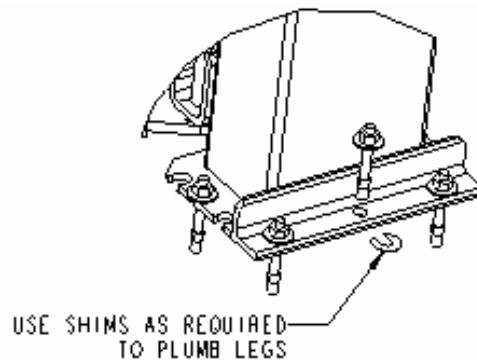

Figure 8
- F. Using a level, plumb the mainside leg both side to side and front to back. Shim the leg as necessary next to and on both sides of the anchor bolts, figure 8. If more than 1/2" of shimming is required, **do not** use the anchors and shims provided with the lift. Use longer anchors and fabricate larger shims from steel flat, 1/4" or 1/2" thick by 2", or more, wide.